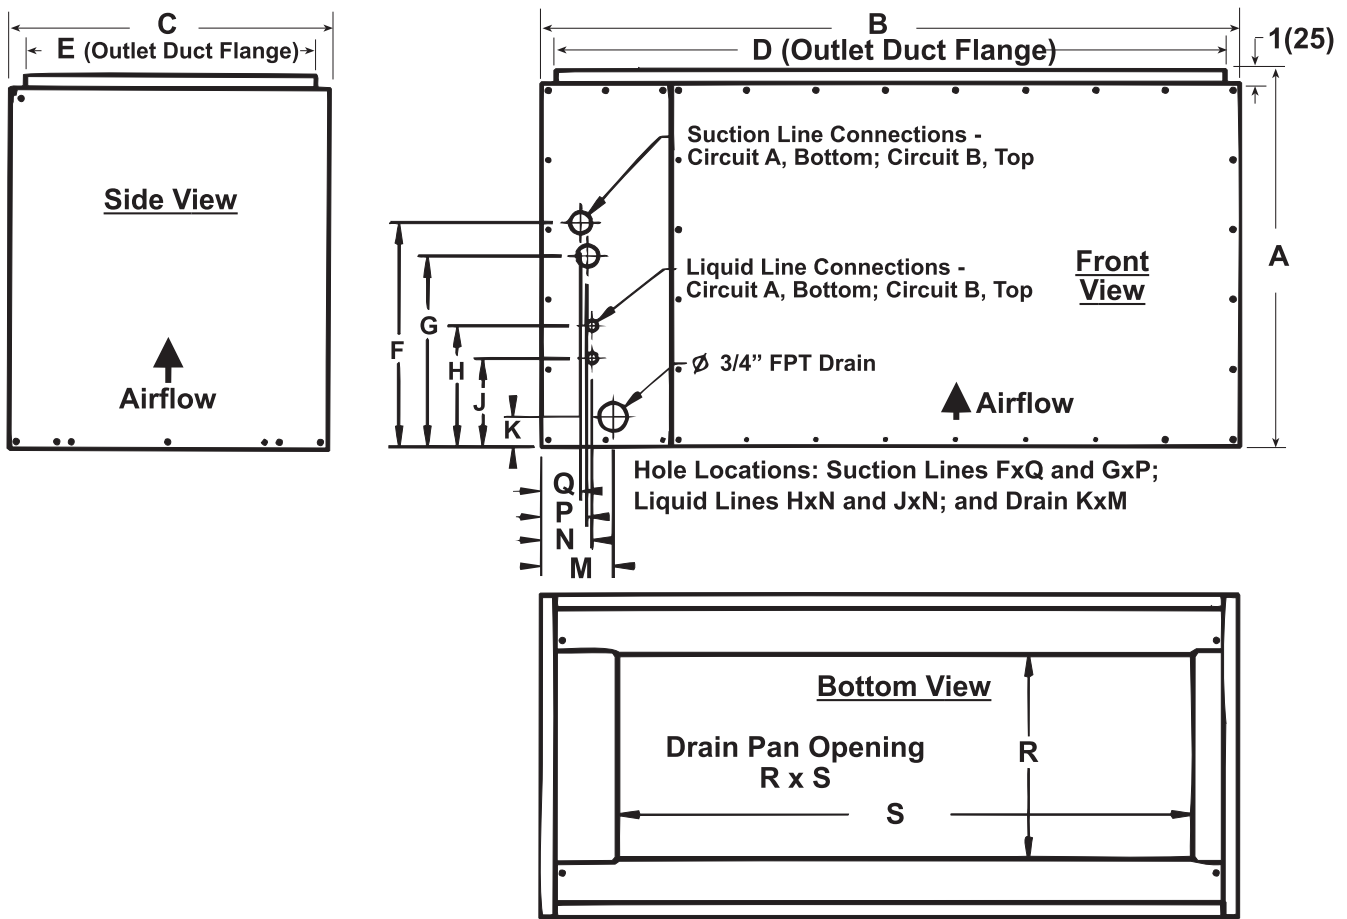

Figure 2. Cased Cooling Coil Dimensions (Refer to Table 4)
Unit Size	Dimension (See Figure 2)
The cased coil has a 3/4-inch FPT drain connection (see location in Figure 2). Install the drain line as follows:
- Install discharge ductwork to the top of the cooling coil cabinet (refer to dimensions D × E in **Figure 2** for duct flange dimensions).